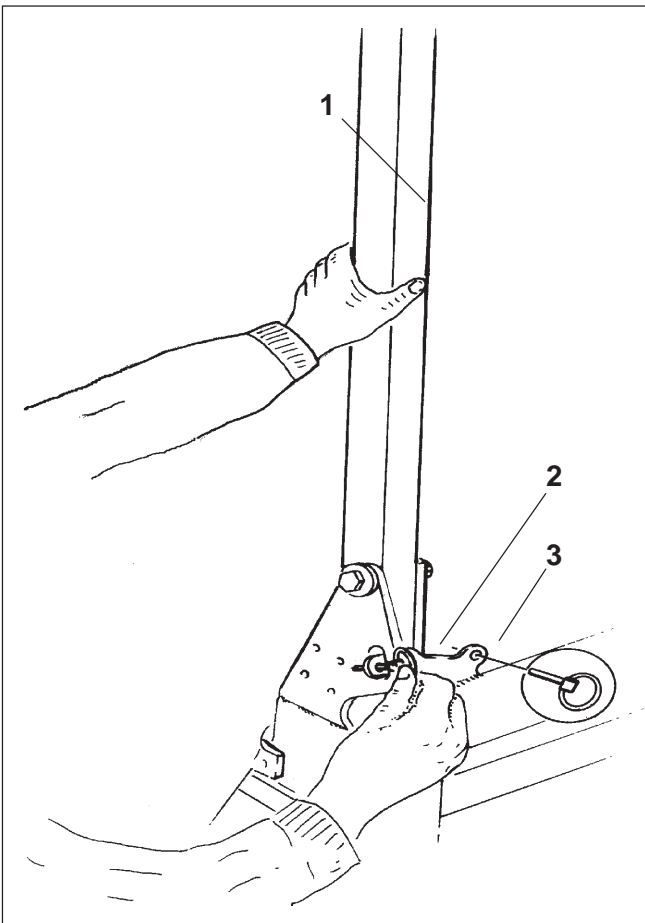

Fig. 23.8
Every marker arm (Fig. 23.8/1) is fixed for transporting position by a clip pin (Fig. 23.8/2) ,
- remove clip pin (Fig. 23.8/2) only immediately prior to the operation in the field
- when not needed, insert the clip pin (Fig. 23.8/2) into one of the holes (Fig. 23.8/3) .
After removal of the clip pin (Fig. 23.8/2) the marker arm is tilting slightly to the side.